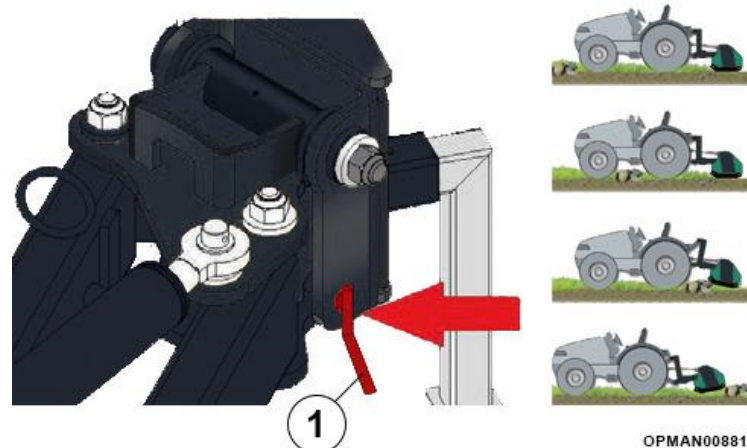

Figure 10
Sniper Offset machines feature a removable pin near the mounting point of the parallel arms to the headstock (Figure 10 (1)). It is important to remove this pin to allow the machine to float correctly and follow ground contours more effectively, giving better operation and finish of the cut material.